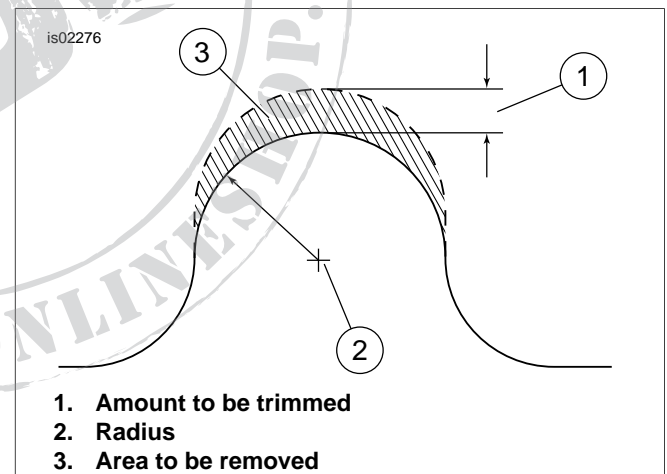

Figure 11. Windshield Trimming Dimensions
1. See Figure 11. Cover an area extending approximately 2 in. (50 mm) from windshield headlamp opening with two layers of masking tape on both sides of windshield. This tape provides a surface on which to mark the cut, as well as to protect the windshield while cutting.
2. Mark amount to be trimmed (1) on the tape. Maintain existing radius (2) when marking new opening.